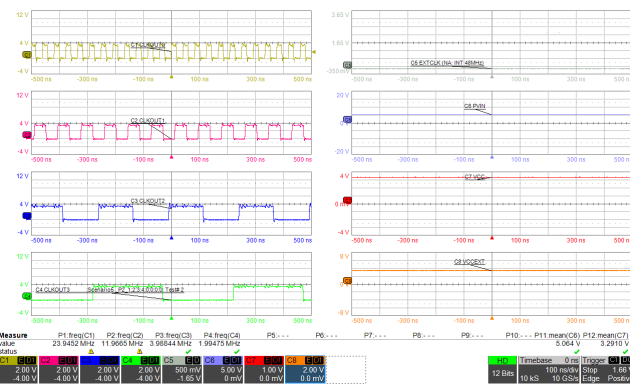
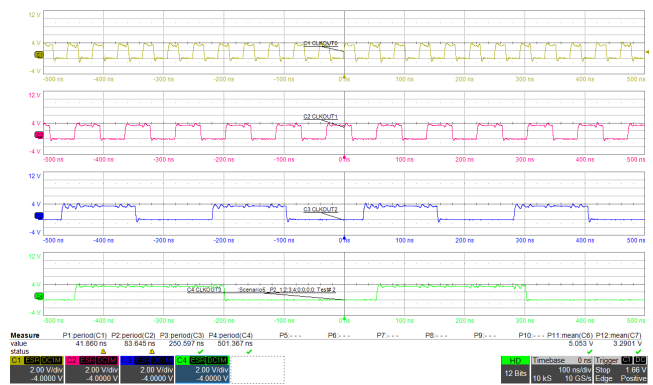

Figure 24. Example Scenario 5: Frequency
Figure 25. Example Scenario 5: Period
- Scenario 5 (Figure 24 and Figure 25) – All four outputs are at different frequencies